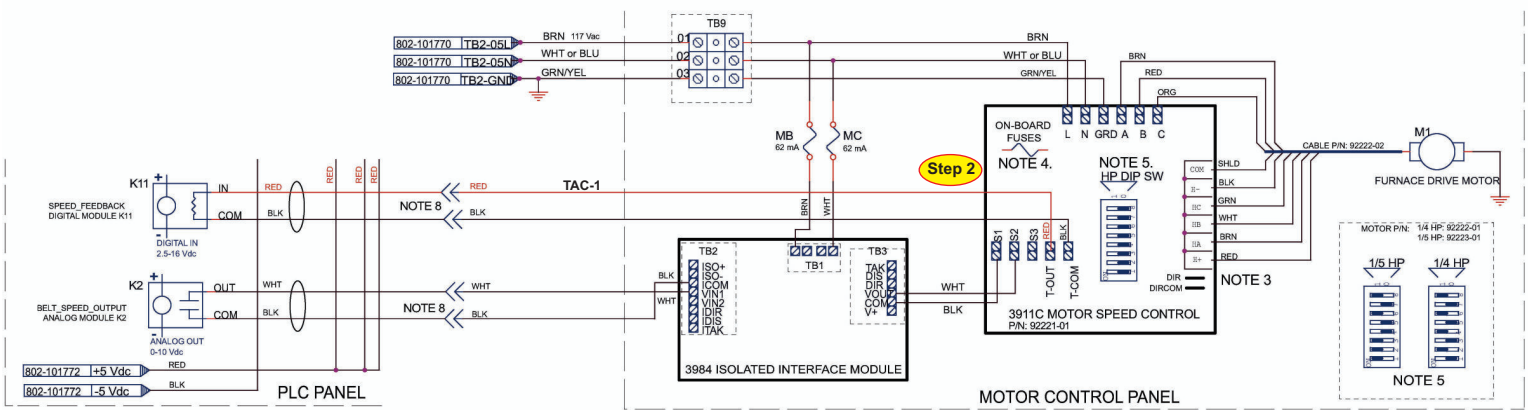

Figure 1. Before Rewire (Rev 2)
2. Disconnect red TAC-1 wire at T-OUT terminal on 3911C Motor Speed Control board (figure 1).